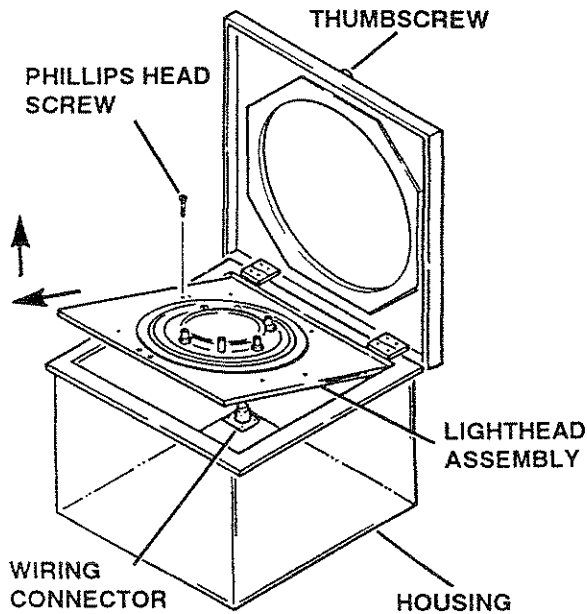

Figure 1.
1. Loosen cover thumbscrew, open cover and remove three screws securing light assembly to housing. See figure 1.